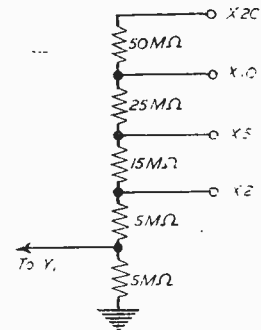

Fig. 4 (Right).—A practical divider using resistors.
By making a potential divider, the upper limit of voltage can be extended. How far it can be extended depends on the amount of care devoted to insulation. Theoretically, one could use a capacitive potential divider, but the odd values of components needed make the method impracticable. A practical divider using resistors is shown in Fig. 4. Its success depends on three things: (1) using the closest tolerance resistors obtainable; (2) mounting the resistors on high-grade insulating material with the greatest possible tracking length; and (3) ensuring that the voltage across the ends of any one resistor is within the maker's rating. Few carbon resistors are supposed to be run with more than 750 volts between ends, regardless of wattage considerations. The effect of this is that unless one can afford resistors specially designed for high-voltage use, the higher values in Fig. 4 have to be made from several resistors in series. Although this takes up a good deal of room it is worth doing, for the result is the equivalent of a high resistance E.H.T. meter. Because of its inevitable stray capacitances, this form of potential divider is not suitable for use much above 50 c/s.